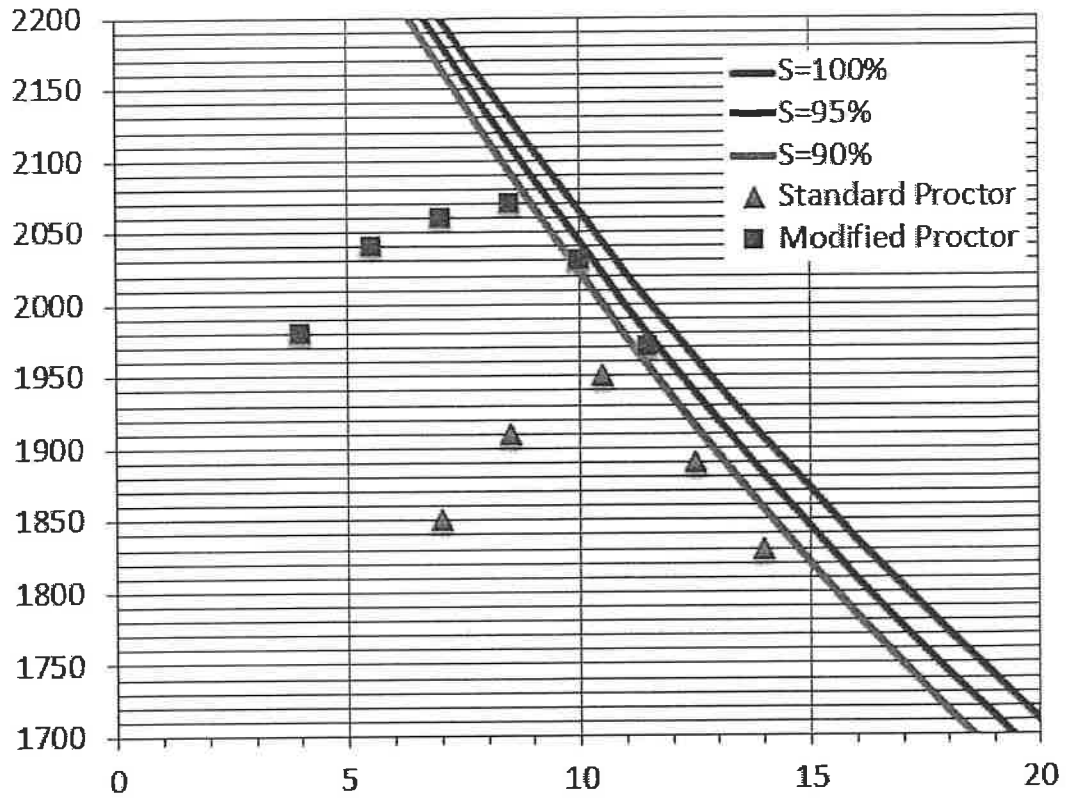

Figure Q2-1.
1. Standard and modified compaction curves for a soil is plotted below in Figure Q2-1.